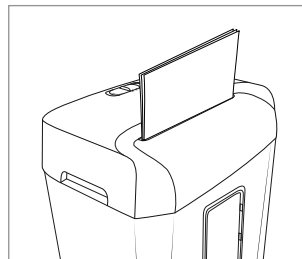

Fig. 2
- ◆ Insert paper into the middle of the cutter opening **8** from above and in portrait format (see fig. 2). The appliance starts automatically and switches itself off automatically if no further paper is inserted.
- ◆ Hold the cutter attachment **5** by the two integrated carrying recesses **7** and position it over the waste collector **10** so that the power cable **1** points backwards and the viewing window **9** in the waste collector **10** points forwards (see fig. 2).